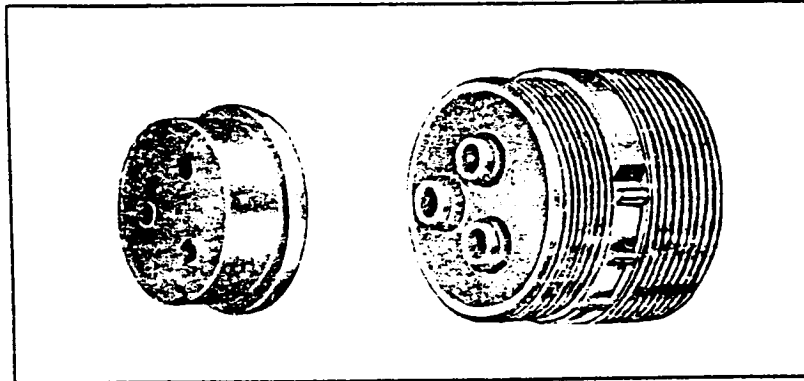

Figure 8
Identifying letters on the rear face of the grommets are to be used as a guide in threading wires. The letter or letters of the grommet should align with the same letter or letters on the rear face of the insert, figure 8.
- b. Align the letters of both insert and grommet as shown in figure 8, and proceed to thread the wires through the grommet.